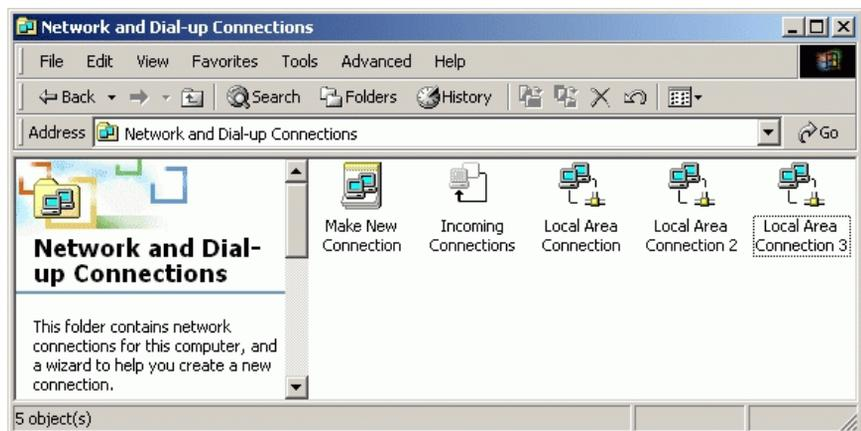

Figure 15 Network and Dial-up Connections Window
2. Double-click the *Network and Dial-up Connections* icon. The *Network and Dial-up Connections* window displays (Figure 15).